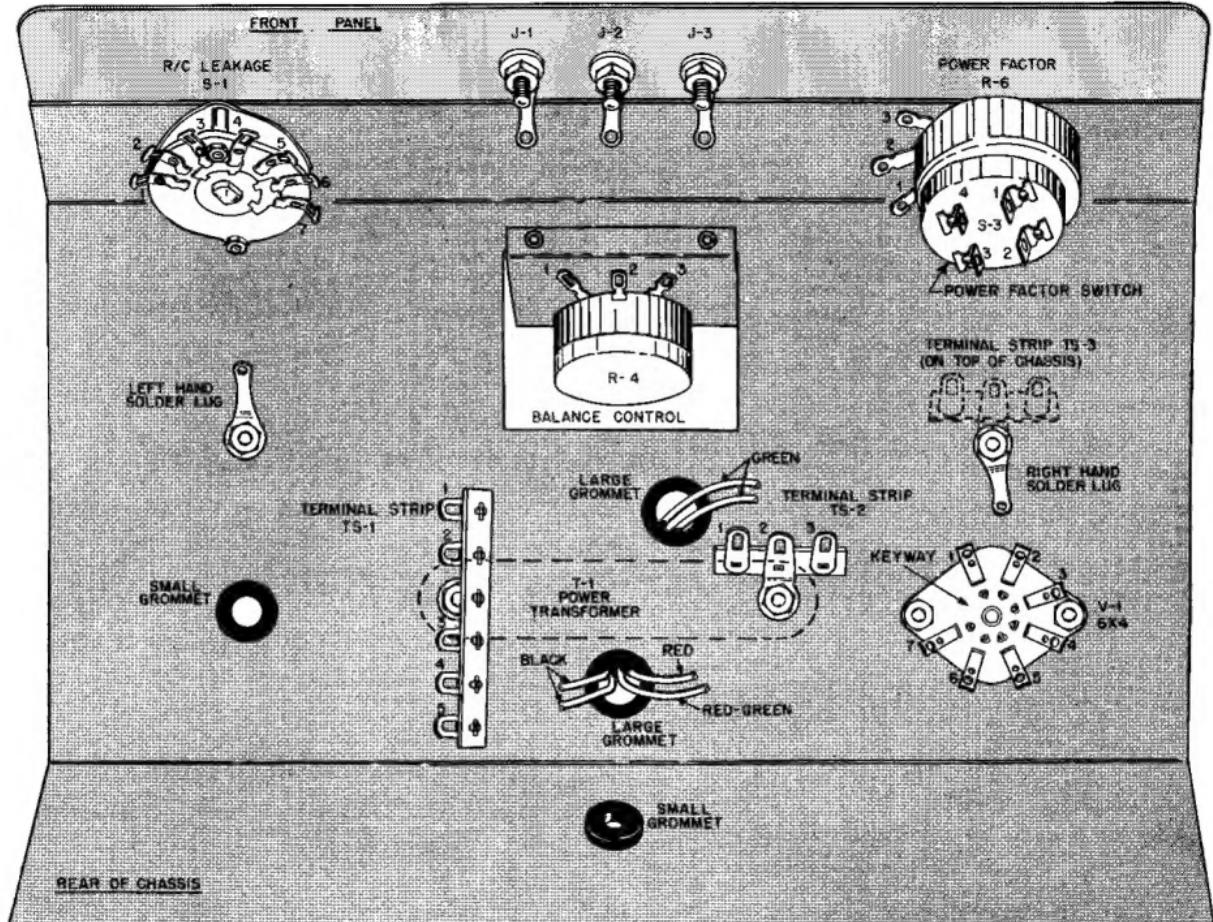
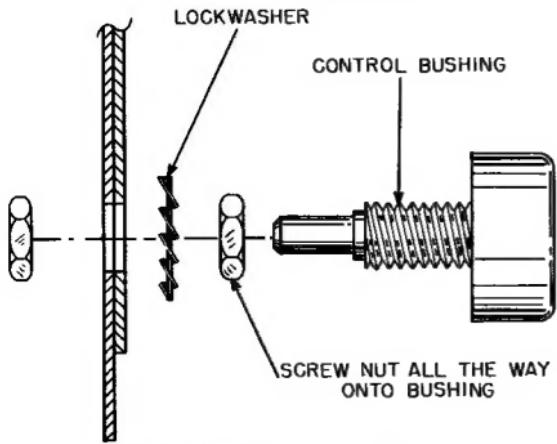
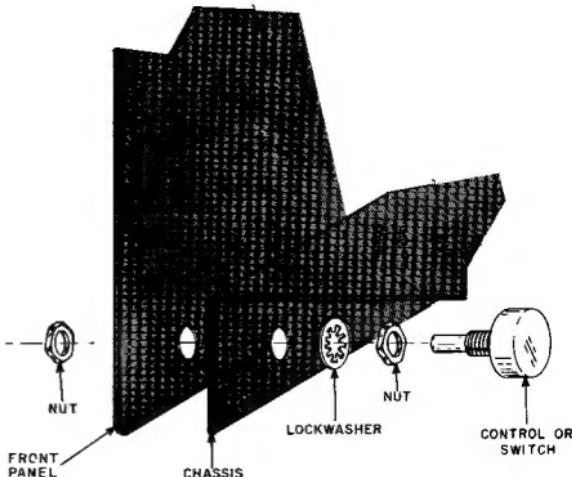

FIGURE 1. MOUNTING THE PARTS ON THE CHASSIS
FIGURE 2. HOW TO MOUNT A CONTROL
FIGURE 3. HOW TO MOUNT THE FRONT PANEL WITH A CONTROL
REFER TO FIGURE 1.
- (X) Mount the 7-pin wafer socket inside the chassis over the hole near the right rear edge of the chassis with two machine screws and nuts. The keyway (the wide open space between two of the socket pins) must be toward the left and front of the chassis.
- (X) In front of the 7-pin socket, mount the other three-terminal strip (TS-3) on the outside of the chassis, shown in broken lines in Figure 1, and a solder lug on the inside of the chassis, with a machine screw and nut. This solder lug will be referred to as the Right Hand Solder Lug.
- (X) Mount R-4, the 10K ohm potentiometer without a switch, on the bracket that is welded to the top of the chassis so its terminals point toward the rectangular hole in the chassis. Figure 2 shows how to mount a control using two nuts and a lockwasher.
- (X) Mount the front panel to the chassis with R-6, the 800 ohm potentiometer with a switch. See Figure 3. The potentiometer terminals must be toward the center of the chassis, as shown in Figure 1.
- (X) Mount S-1, the single-wafer switch, in the left hand hole in the front of the chassis. Position the switch as shown in Figure 1. See Figure 3.
(X) Mount the double-wafer switch (S-2) in the small hole near the top of the front panel. See Figure 2. The open space on the rear wafer must be toward R-4, as shown in Figure 1.